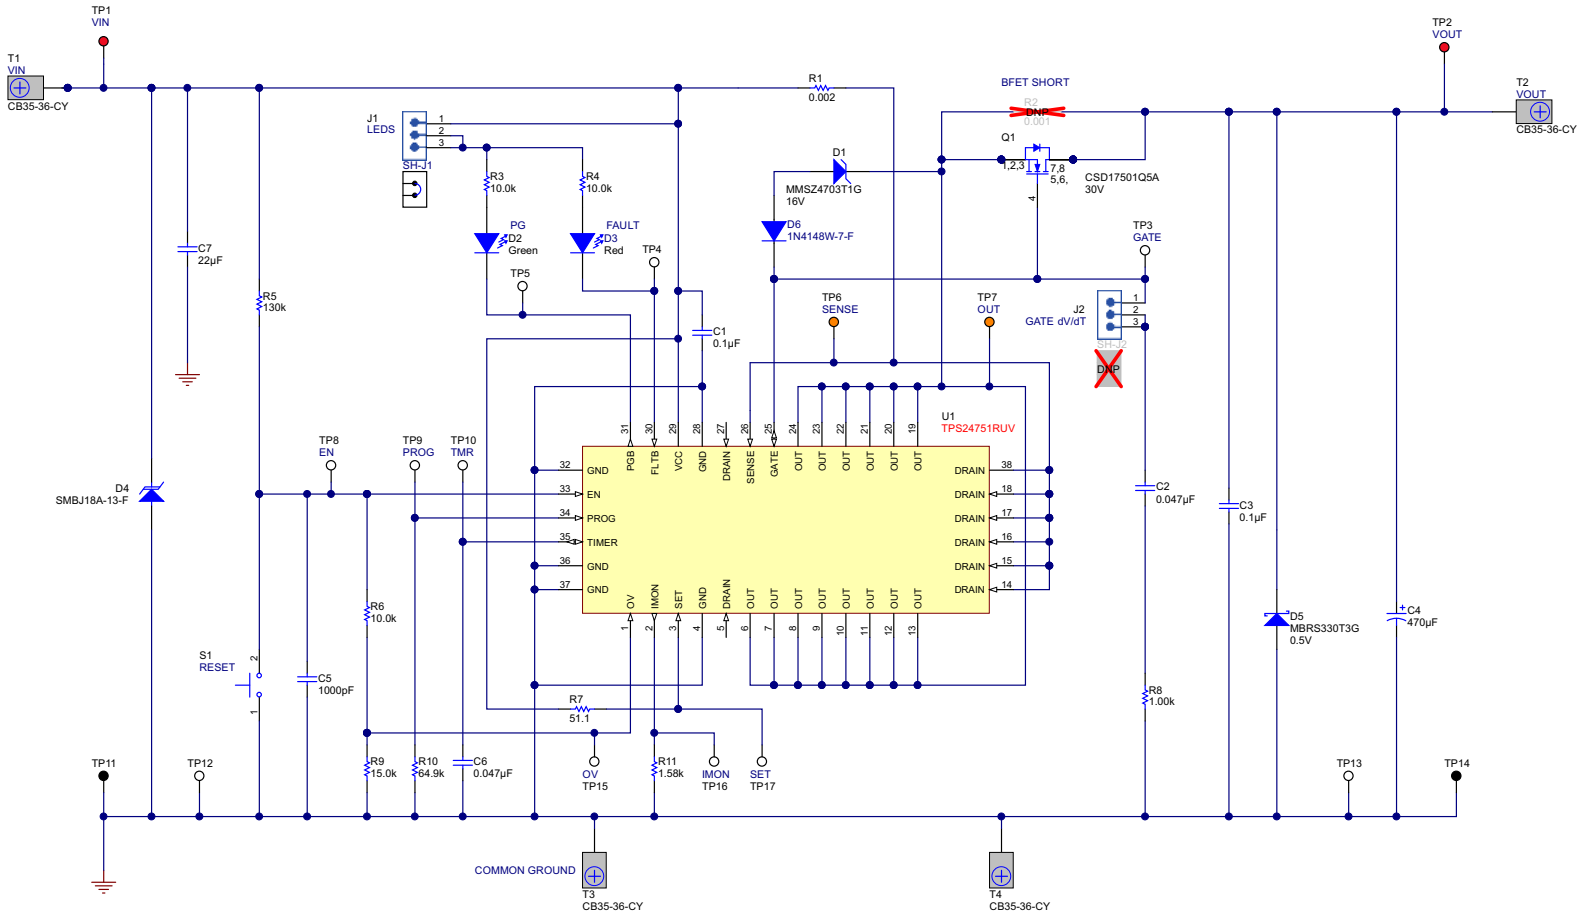

Figure 1. TPS2475XEVM Schematic
The TPS2475XEVM-546 enables full evaluation of the TPS2475X devices, refer to the schematic shown in Figure 1. Input power is applied at T1/T3 while T2/T4 provides the output connection to the load. D4/C1/C7 provides input protection for the TPS2475X (U1) while D5/C3/C4 provides output protection. S1 allows U1 to be RESET or disabled. A power good (PG) indicator is provided by D2 and circuit faults can be observed with D3.
The schematic for the EVM is shown in Figure 1